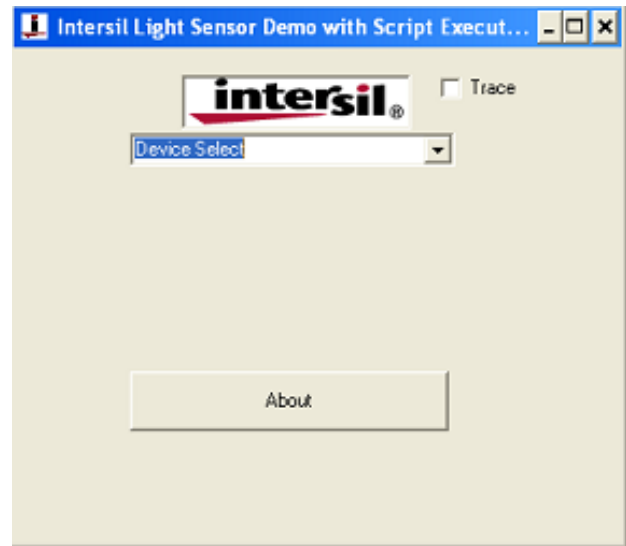

FIGURE 3. SOFTWARE STARTUP
2. Double-click the program name. The **Intersil Light Sensor Demo...** window shown in Figure 3 appears.